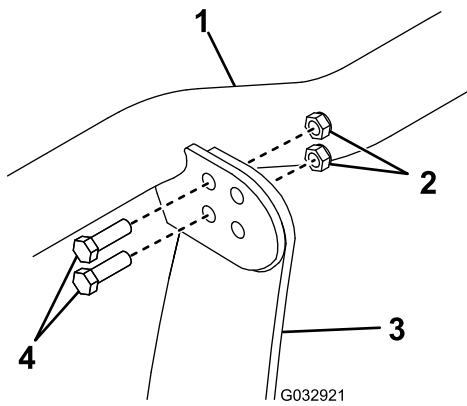

Figure 12
1. Secure the light bar to the top of the coupler tower through the rear holes using 4 bolts (3/8 x 1-1/4 inch) and self-locking nuts (3/8 inch) (Figure 12). Torque the bolts to 31 N·m (23 ft-lb).